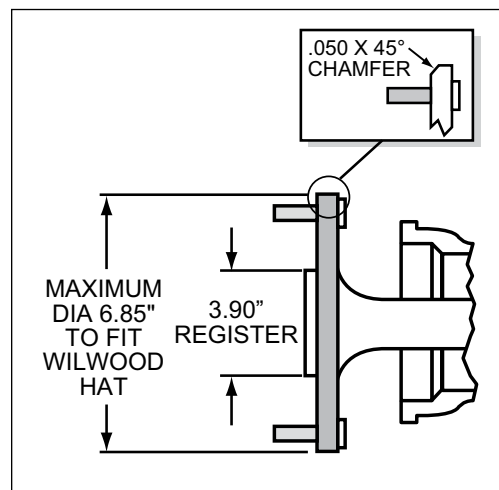

Figure 2. Axle Flange Maximum Dimension
- Axle center registration diameter is 3.90", Figure 2.
- Maximum axle flange diameter must be no larger than 6.85" w/.050" x 45° chamfer (see Figure 2).